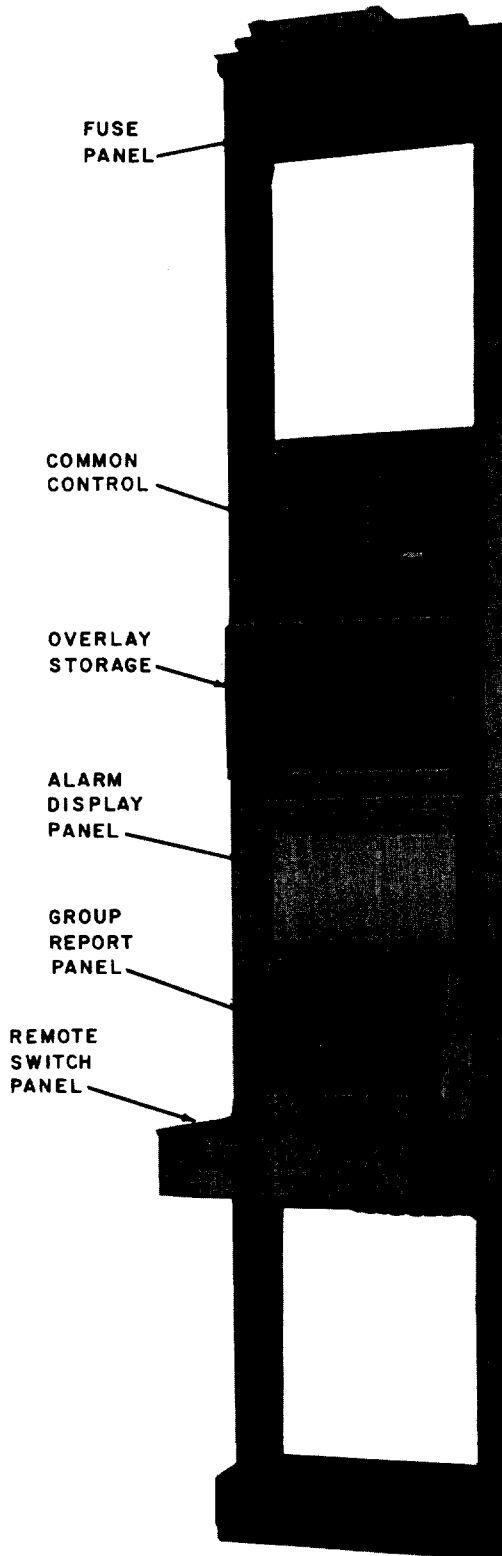

Fig. 1—Typical Central Station
1.03 A typical E1 central station (Fig. 1) contains alarm display, status group report, and remote switching panels.